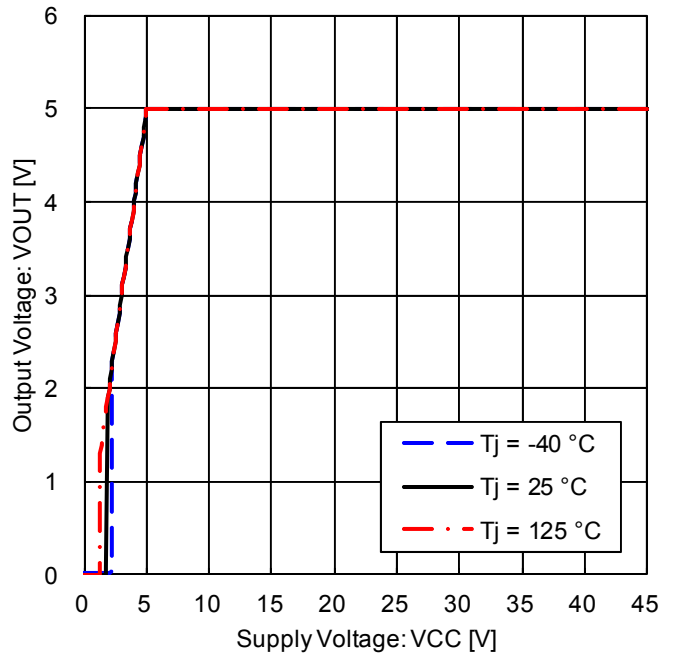

Figure 24. Output Voltage vs. Power Supply Voltage (I_{OUT} = 0 mA)
*Magnified Figure 24. at low supply voltage